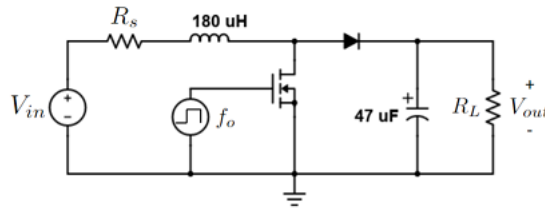
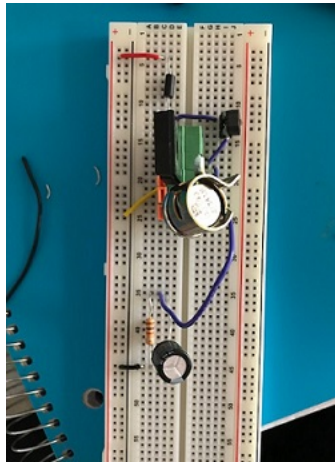

Figure 1: DC-DC boost Circuit
Figure 6: DC-DC boost circuit setup on breadboard
Description: In your own words (i.e. not the interweb's words or your BFF's words) describe qualitatively how the DC-DC boost circuit shown below in Fig. 1 is able to produce a larger voltage at V_{out} as compared to V_{in} . You are welcome (and encouraged!) to use figures/pictures for your explanation. Assuming an ideal square wave input to the MOSFET gate with period T_0 , qualitatively plot the corresponding ideal voltage (as a function of time) across the diode.
- I set up the circuit in Figure 1 on the breadboard, but I modified it to make the construction with the materials I had more feasible. The finished circuit can be seen in Figure 6.